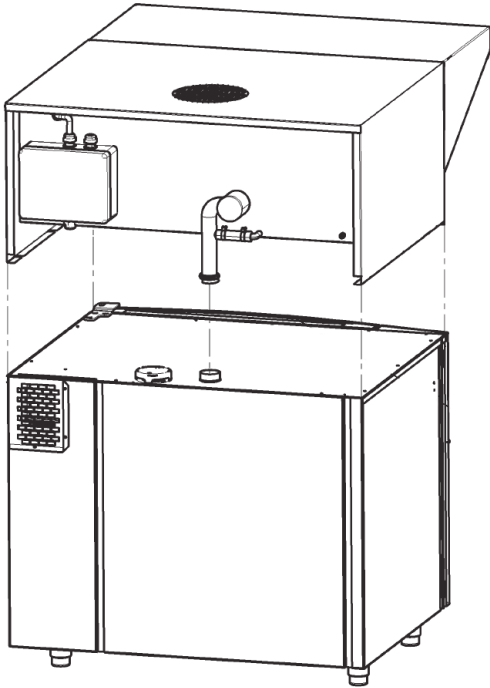

Figure 2: Fitting the tube into the flue for an 0611 hood
- Fit the 0610 hood onto the appliance, taking care to correctly connect the hood input (the tube at the back of the hood) onto the appliance's flue - see fig. 2. Due to the weight of the hood, a sufficient number of persons will be needed for this operation.